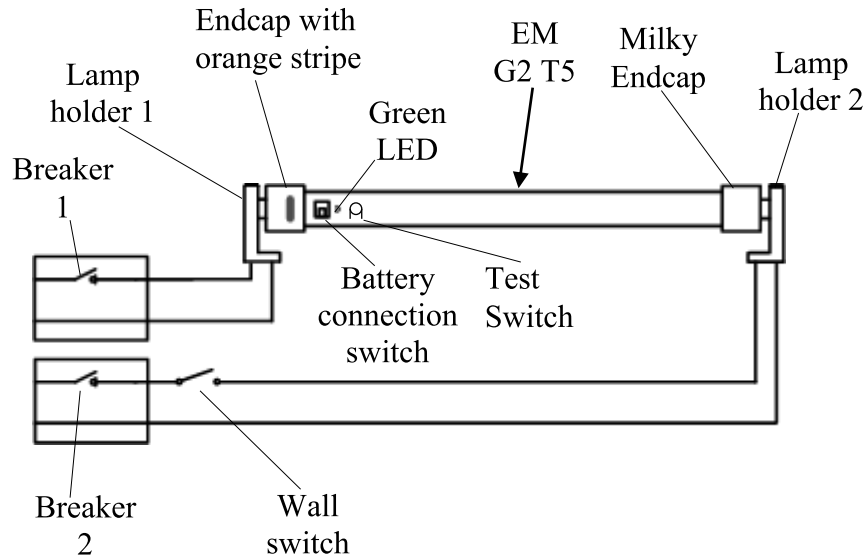

Fig. 1
6. Install the non-shunted lamp holders provided with the aleddra's emergency G2 LED T5 lamp retrofit kit into the fixture: Refer to wiring diagram in Fig. 1.